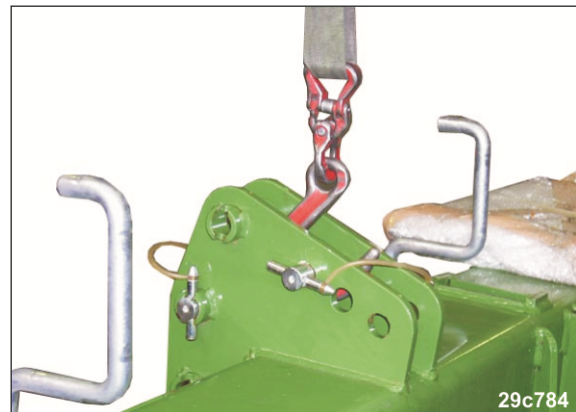

Fig. 3
1. Attach a chain at the specified points on the implement (see Fig. 3).